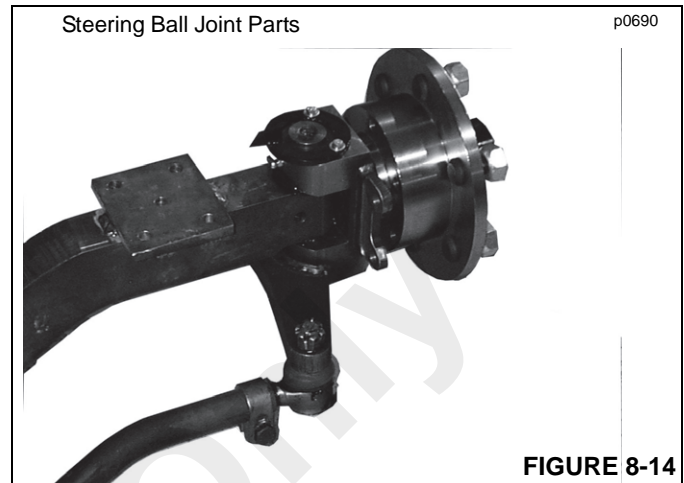

FIGURE 8-14
3. On one end of tie rod loosen the ball joint clamp (Figure 8-14).